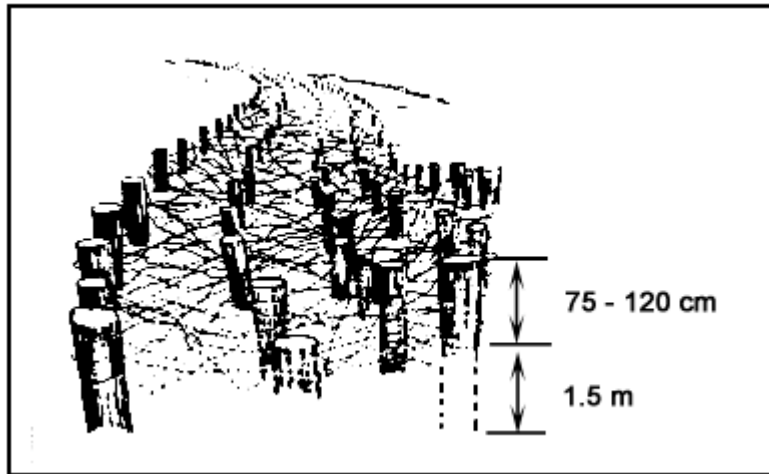

Figure 052-195-3066-11
- (1) Logs are cut 1.8 to 2.4 meters long.
- (2) Three logs 25 centimeters in diameter or one log 45 centimeters in diameter are used.
- (3) Logs are staked firmly in place. Ensure that stakes are no more than 1.5 meters apart.
- (4) The log poles are lashed to the stakes with wire.
- (5) The securing stakes are buried a minimum of 60 centimeters in the ground with 60 centimeters remaining aboveground.
- d. Direct the construction of a log post obstacle (Figure 052-195-3066-11). Ensure that--